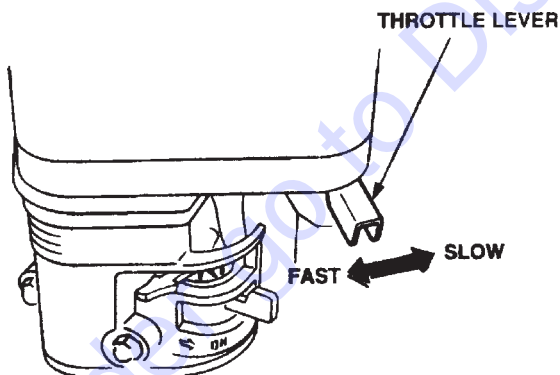

Figure 14. Throttle Lever (Run Position)
9. To begin troweling, move the throttle lever (Figure 14) toward the **"FAST"** position.
1. Move the throttle lever to the **IDLE** or **SLOW** position (Figure 14) and run the engine for three minutes at low speed.